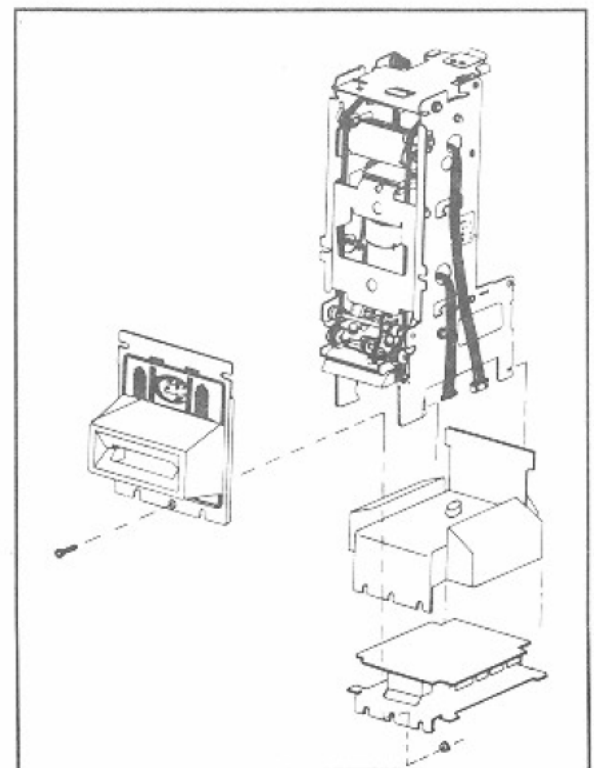

Figure 4-8. Removing The Bill Inlet
1. Remove the countersunk screw that holds the inlet on the front of the transport (*see figure 4-8*).